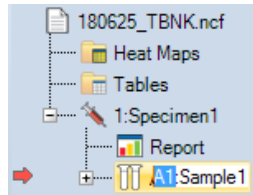

Figure 3-3 Modify Well ID in the Experiment Manager Panel
- ▶ Click *Sample1* in the *Experiment Manager* panel to select the node (Figure 3-3). Right-click and select *Rename*. The Well ID can now be modified to A2.